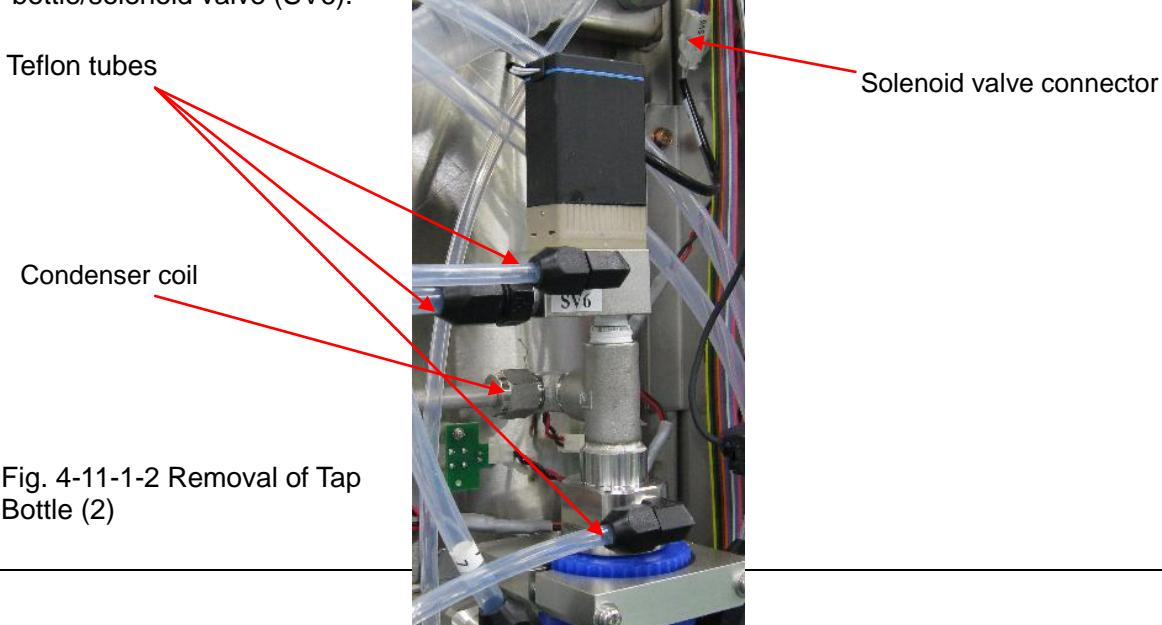

Fig. 4-11-1-2 Removal of Tap Bottle (2)
- (5) While holding the cap holder by hand, remove the cross-recessed pan-head screws (refer to Fig. 4-11-1-1), remove the cap tightener, and then remove the trap bottle cap and solenoid valve (SV6) together.
- (6) While holding the across-flat section of the cap holder with a wrench (width across flats 28), remove the cap hold nut using another wrench (width across flats 22).